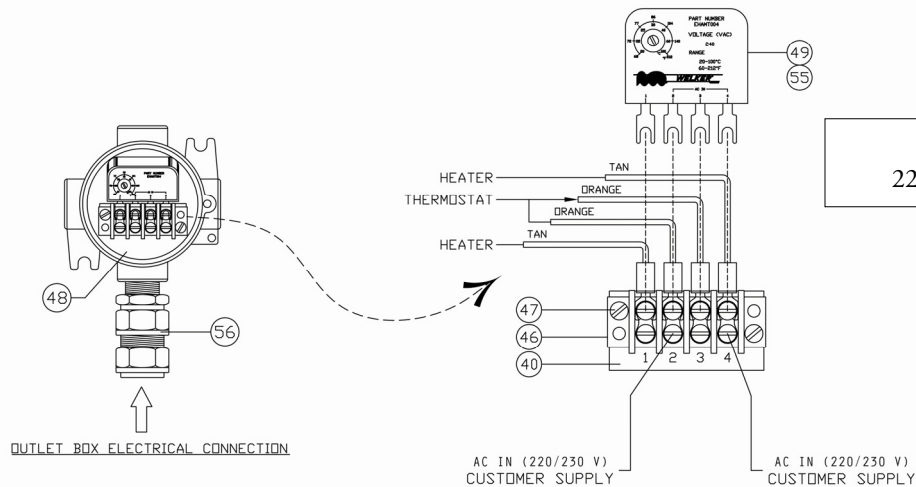

Figure 8
19. With the customer-supplied electric power turned off, connect the 220/230 VAC leads to terminals 2 and 4 in the connection box provided (Figure 8).